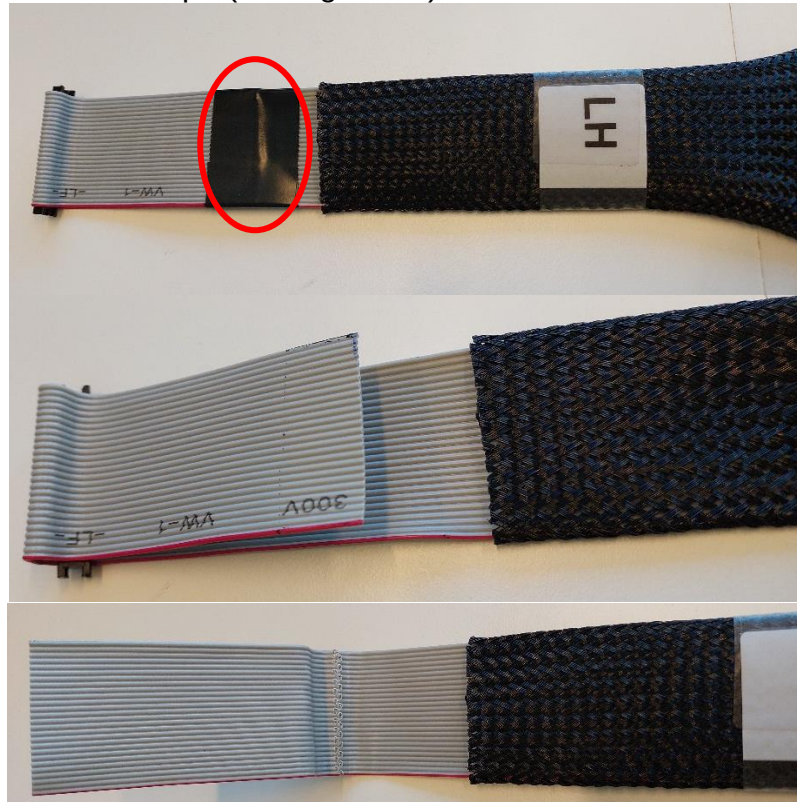

Figure 39. Insulation tape removal.
5) Remove the insulation tape (See figure 39).